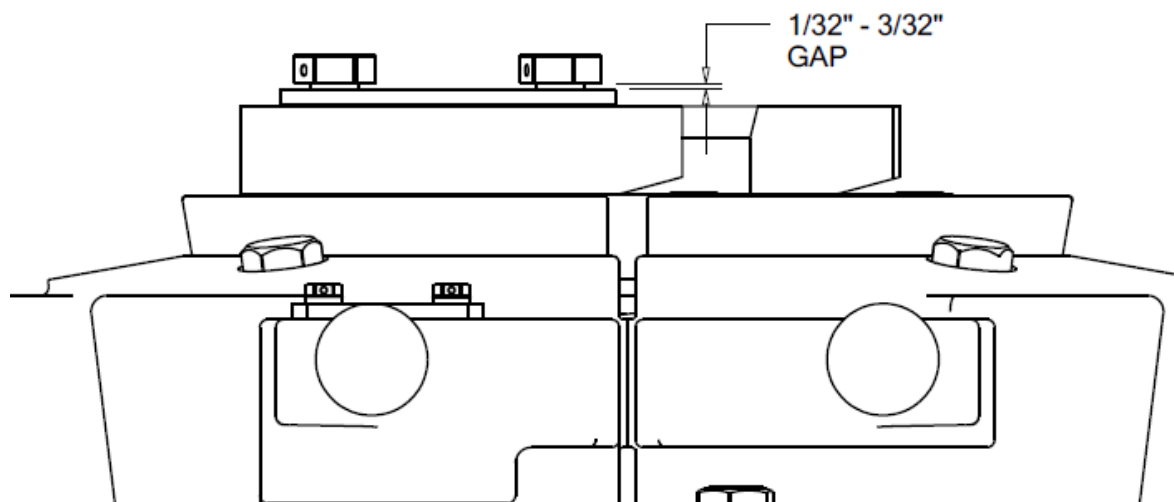

Figure 3
- ▶ Tighten all insert retainer screws. Then tighten the setting plate bolts to the torque value of a minimum of **18 ft-lb.** & maximum of **20 ft-lb.** ensuring there is a **1/32” to 3/32” gap** between the underside of the bolt head and the washer or setting plate retainer. **(See Figure 3)**